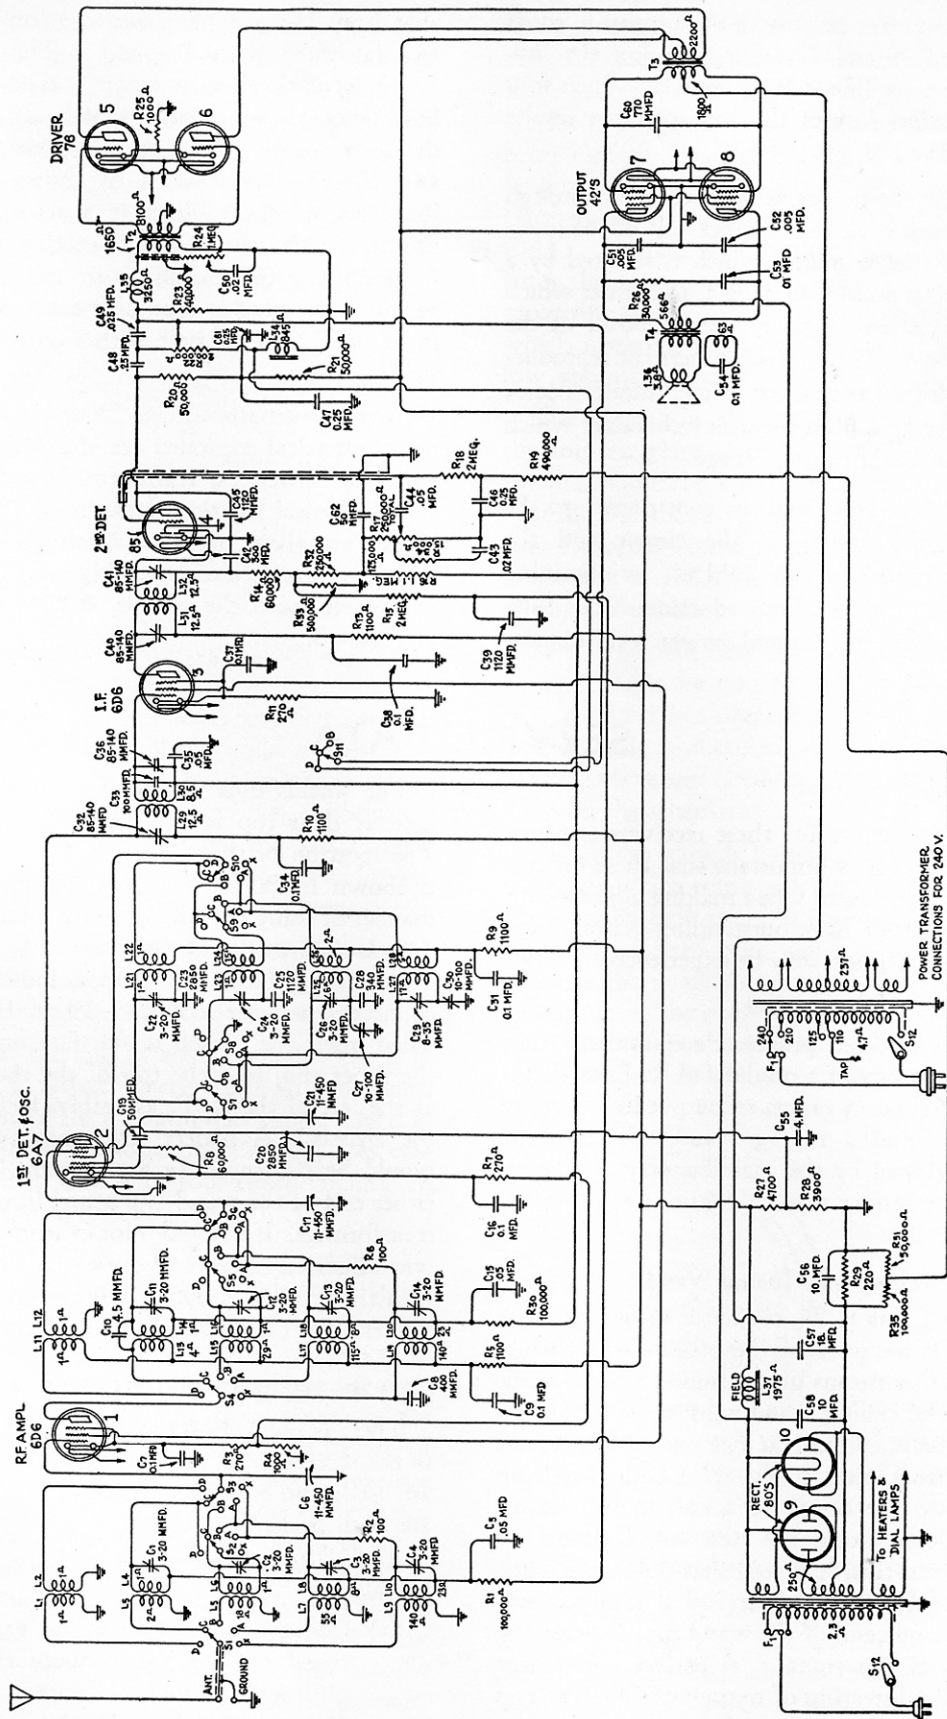
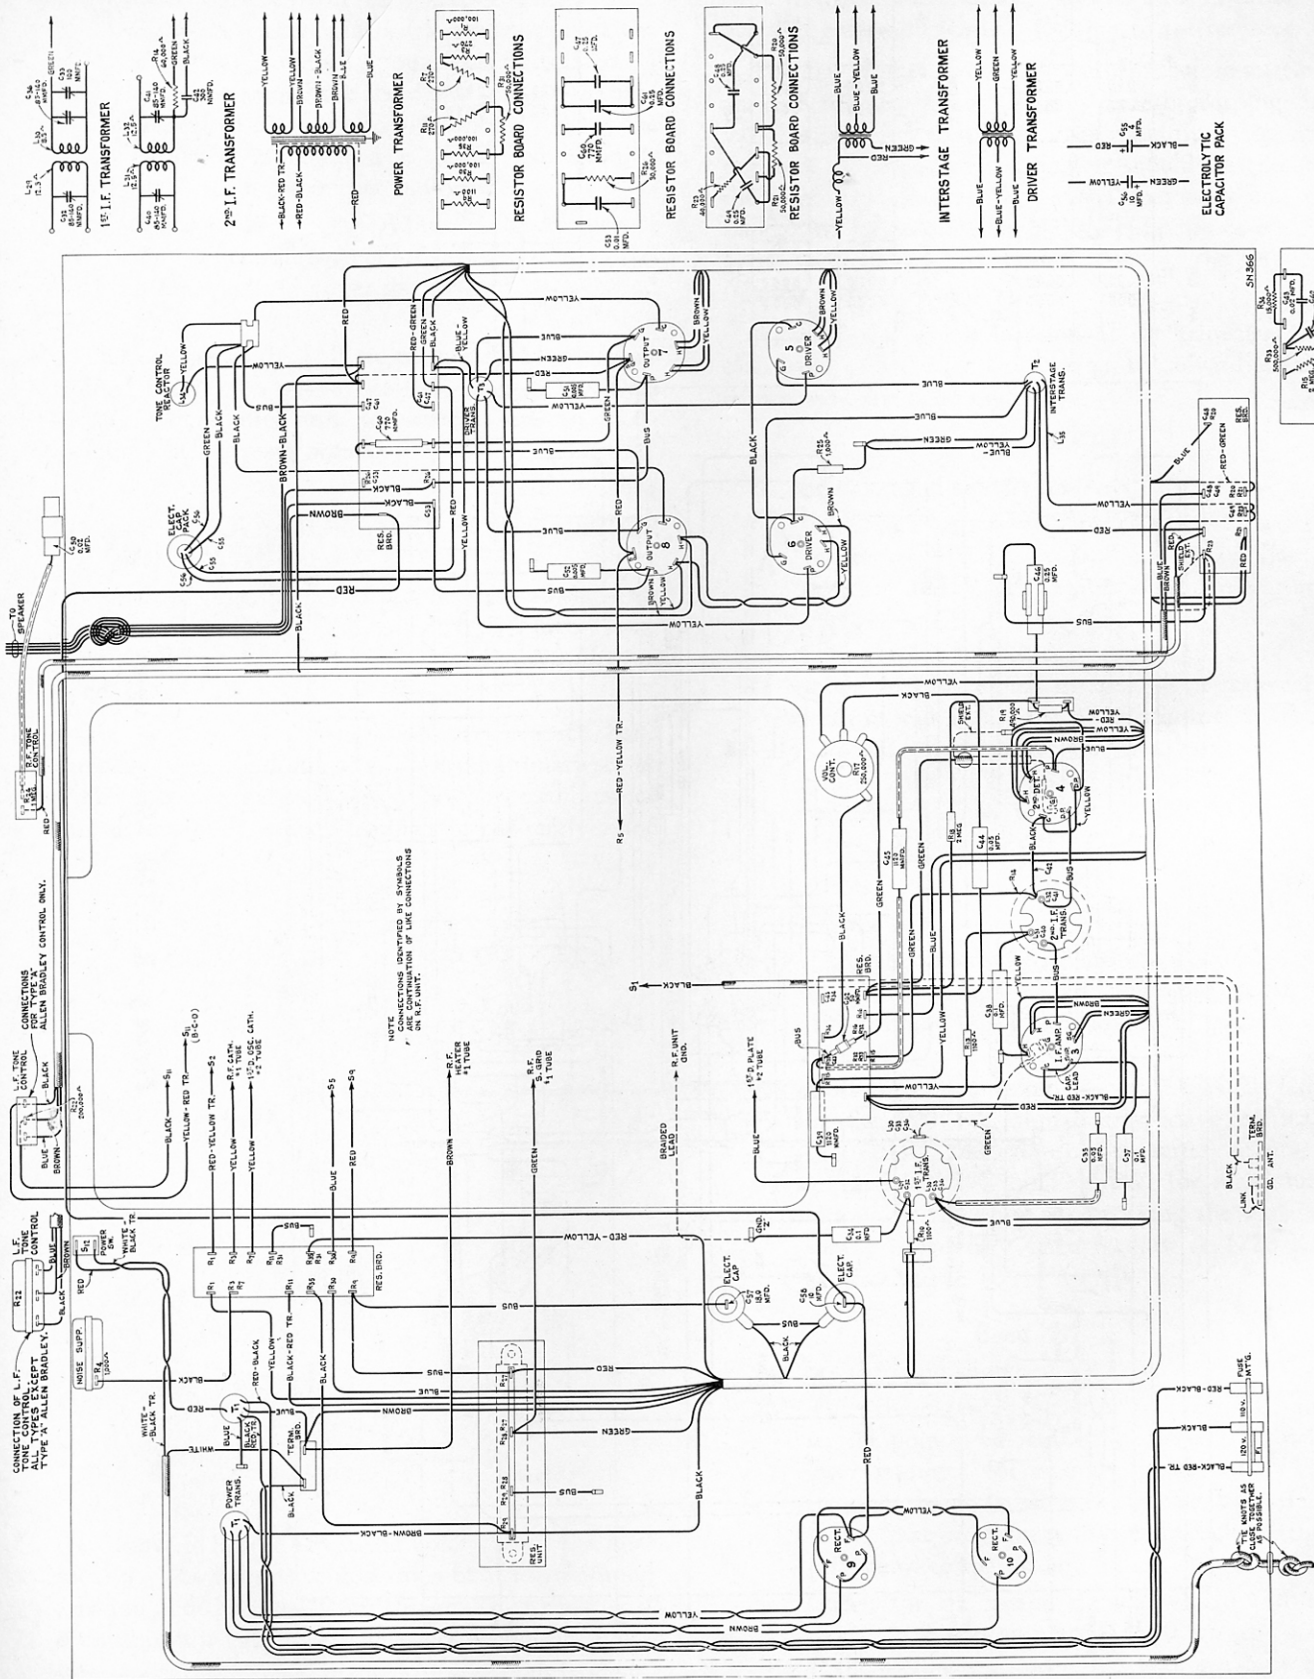
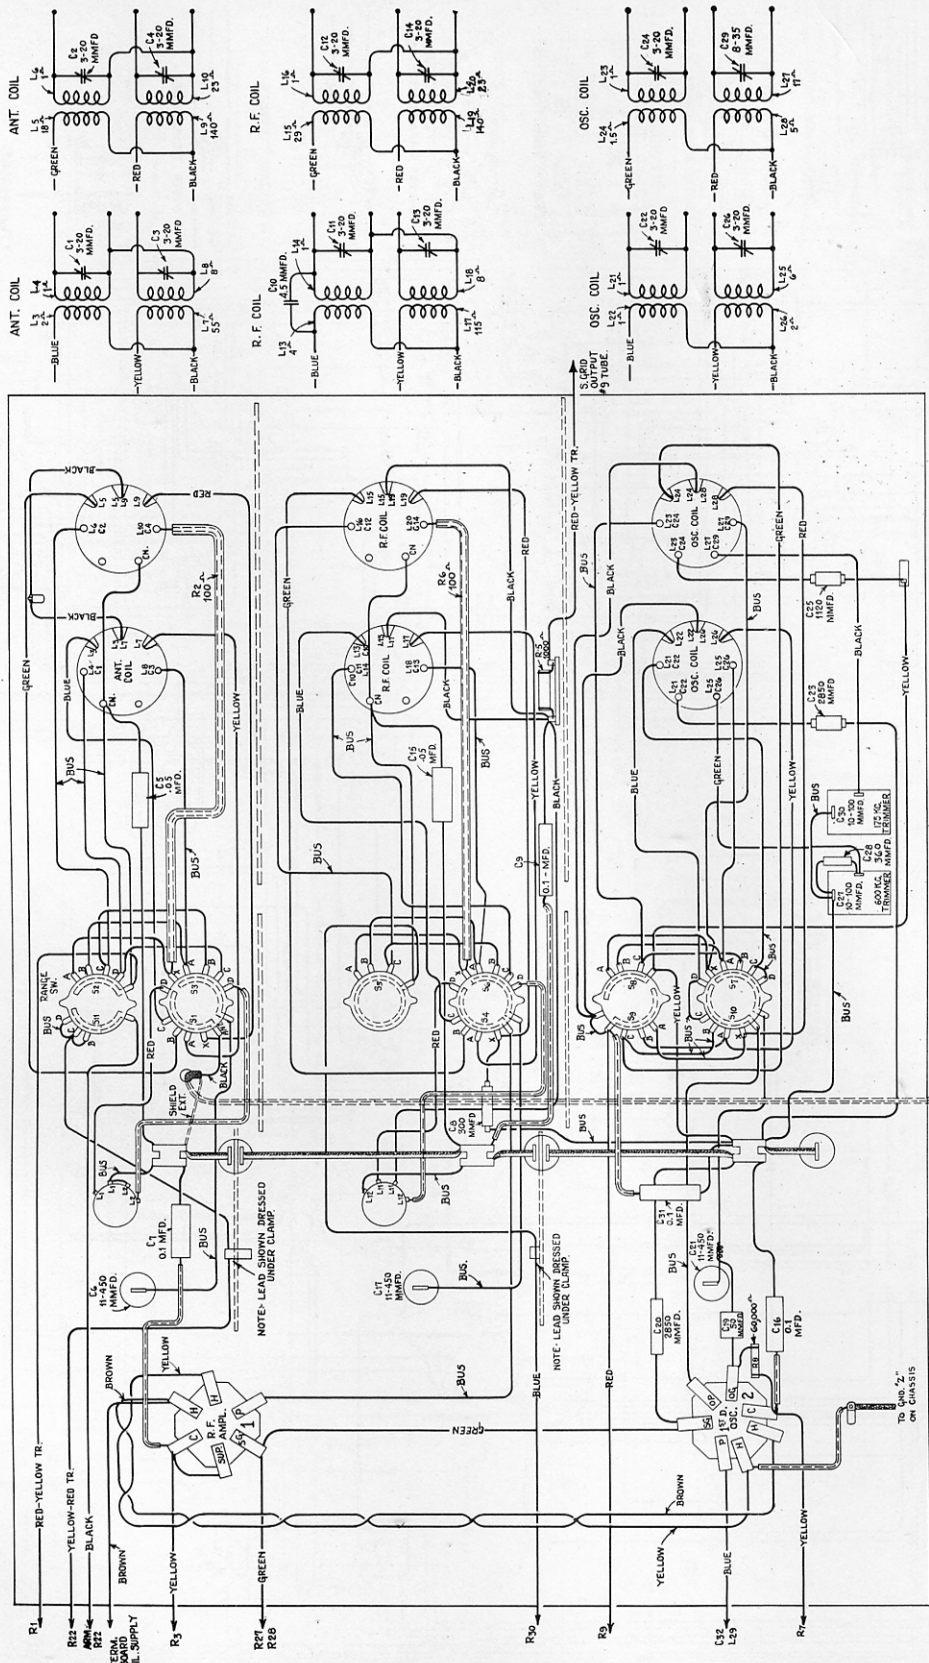

Figure 3—Schematic Circuit Diagram (1935 production 262 and 1935 production 263)
Figure 4—Chassis Wiring Diagram (1935 production 262 and 1935 production 263)
Figure 5—R. F. Unit Wiring Diagram
The general circuit arrangement consists of an R. F. stage, a combined oscillator and first detector, an I. F. stage, a combined second detector, and audio amplifier stage and AVC, a push-pull audio driver stage and a push-pull Pentode output stage. Plate and grid voltages are supplied by a heavy duty rectifier stage combined with a suitable filtering stage, of which the loudspeaker field is a part. Figure 3 shows a typical schematic circuit diagram.
In the Schematic Circuit Diagram of Figure 3, the useful electrical constants are specified adjacent to the resistors, capacitors, transformers and coils. Their actual physical locations and the wiring layout of the chassis are given by the diagram of Figure 4. The R. F. and first detector assembly, which is individually removable from the chassis, is shown in the layout of Figure 5.
(1) Remove the connections of the *red with yellow tracer* lead from the 10 mfd. electrolytic capacitor (C-56) and from the lug on the resistor board where it terminates. In place of this conductor, install a new one that will be outside of the chassis cable, carried along the front side of the chassis, similar to the *red* lead connecting the corresponding points on the wiring diagram of Figure 4.
(2) Connect the grounding lead from the second detector cathode to a ground point nearer the detector socket.
(3) The secondary leads of the interstage transformer connecting to the driver stage, should be kept away from the heater prongs and heater wiring. It is desirable to shorten these leads as much as possible.
(4) It is important that the heater leads of the audio stages of the receiver be carefully twisted.
(7) VOLTAGE READINGS